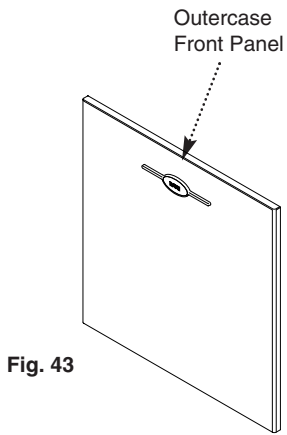

Fig. 43
5. Pull the upper corners of the outcase front panel forwards. Draw the panel upwards to disengage it from the locating lugs (Fig. 43).